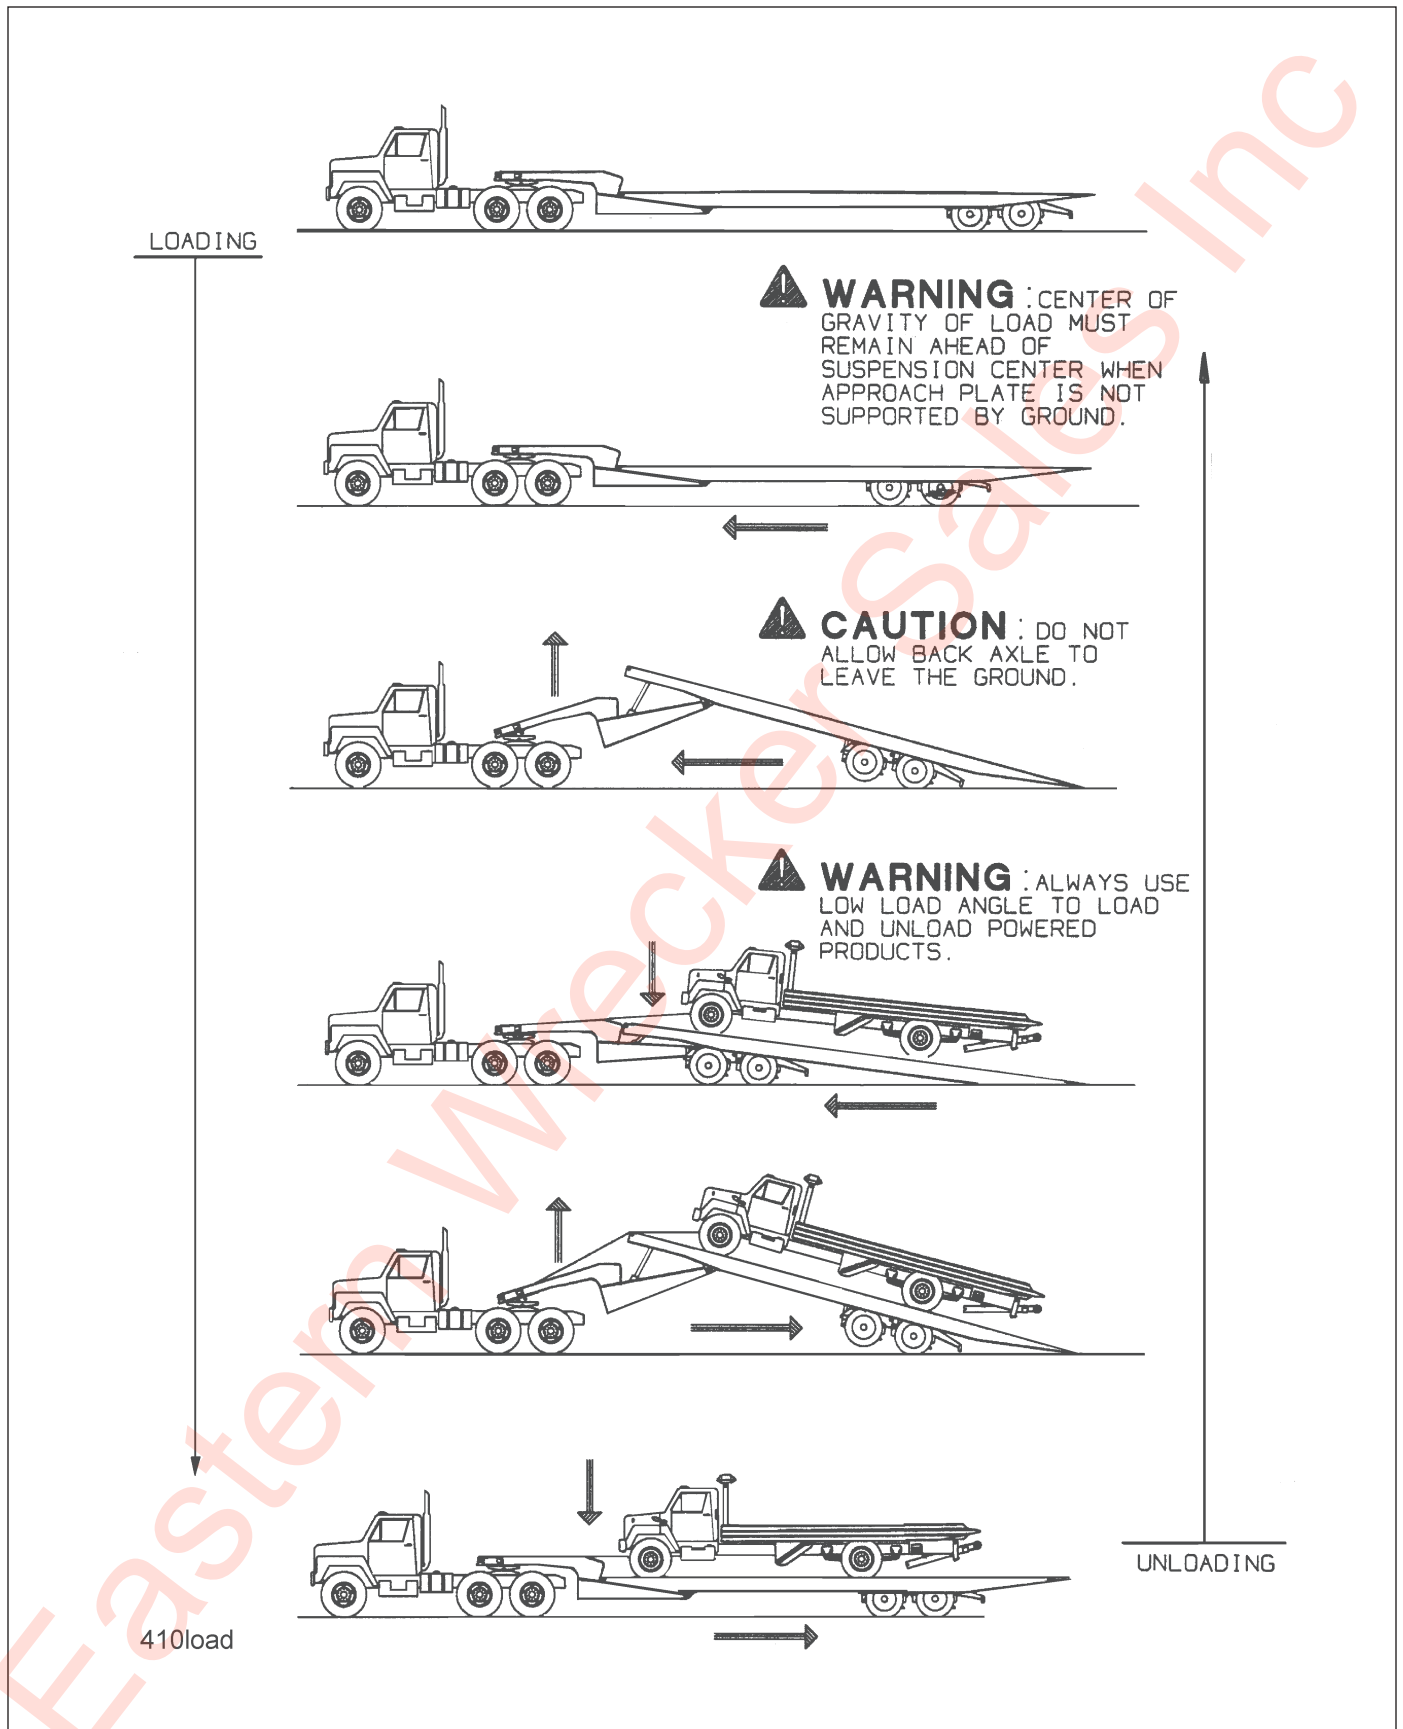

Figure 3-8: Steps for Loading and Unloading
2. Park the tractor/semitrailer in a straight line on level even surface. Set the tractor brakes and release the semitrailer brakes (*See Figure 3-8.*)
2. Park the tractor/semitrailer in a straight line on a level even surface (**See Figure 3-8.**) Set the tractor brakes and release the semitrailer brakes.